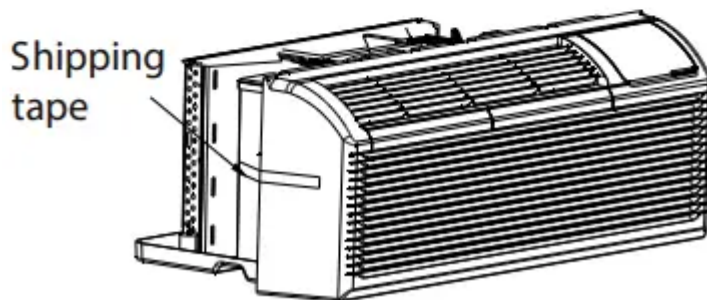

Fig. 7
- Carefully remove shipping tape from the front panel (see Fig. 7).